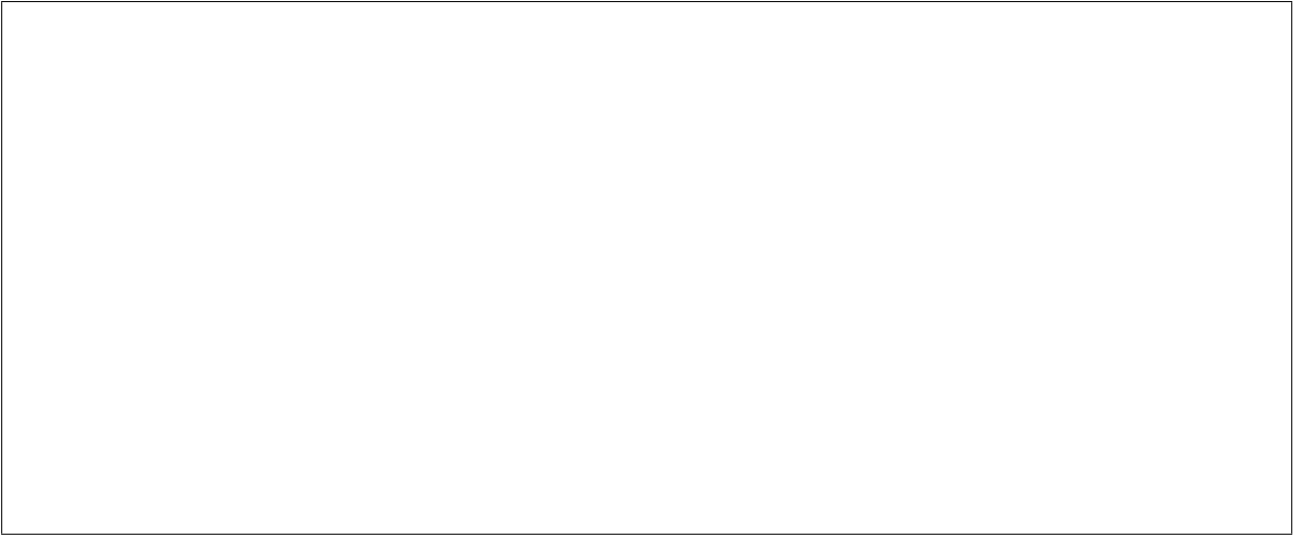

**Figure 8:** Plot for voltage across the capacitor.
2.3.2.3 Simulate the circuit and obtain the plot of the voltage across the capacitor. Using the plot from PSPICE, sketch and label the voltage across the capacitor in Fig. 8. **[1 marks]**